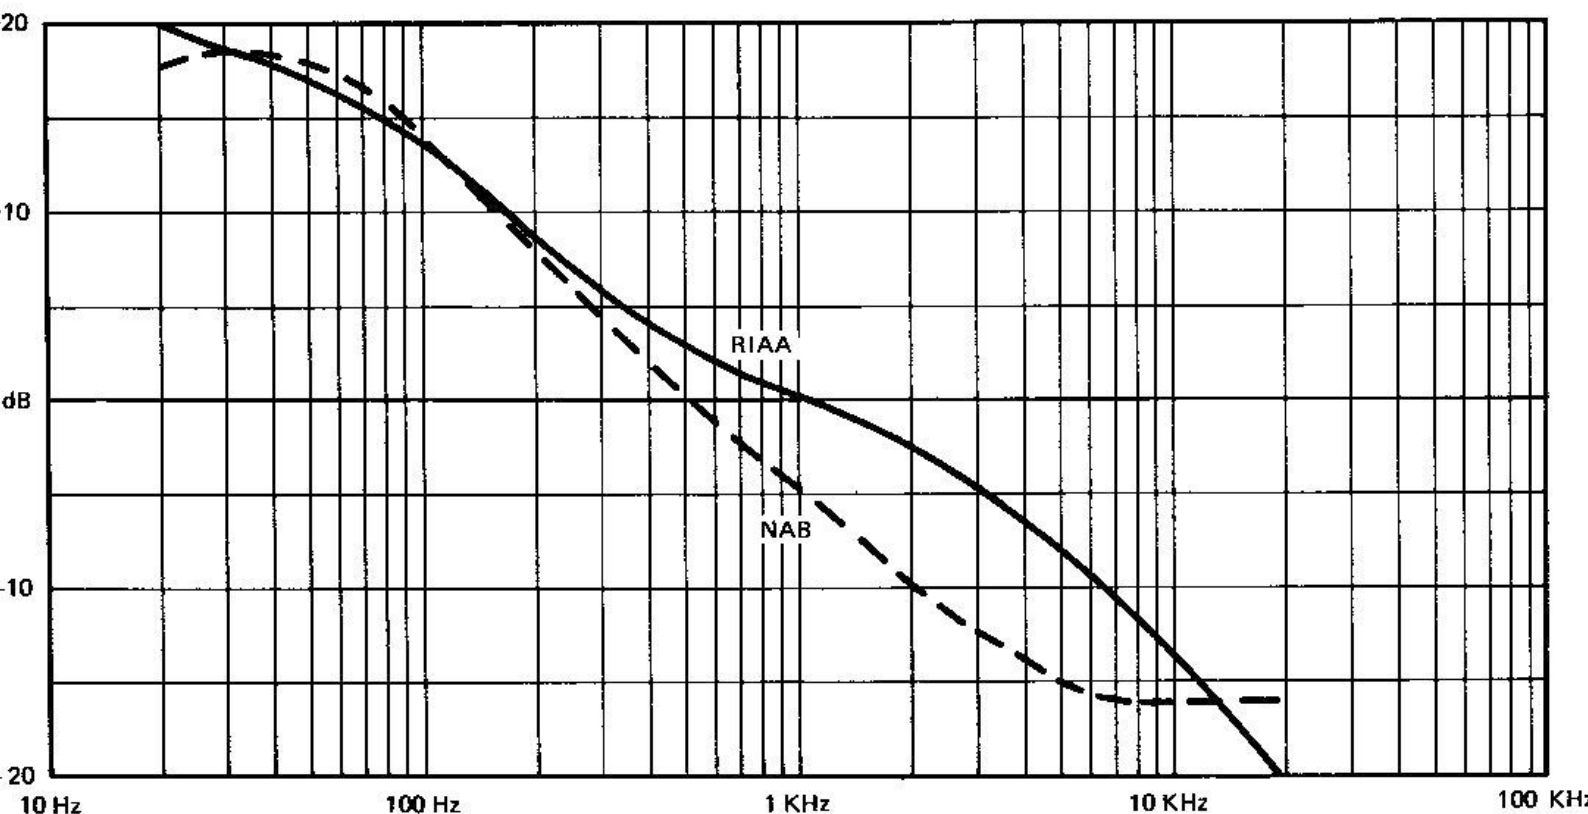

Figure 6. NAB and RIAA Equalization Curves
- e. Set oscillator frequency to 50 Hz. Analyzer should indicate +17.5 dB  $\pm 1$  dB, Figure 6.
- f. Set oscillator frequency to 10 KHz. Analyzer should indicate -15.5 dB  $\pm 1$  dB, Figure 6.
- e. Set oscillator for 30 Hz. Analyzer should indicate +18.61 dB  $\pm 1$  dB, Figure 6.
- f. Set oscillator for 15 KHz. Analyzer should indicate -17.17 dB  $\pm 1$  dB, Figure 6.